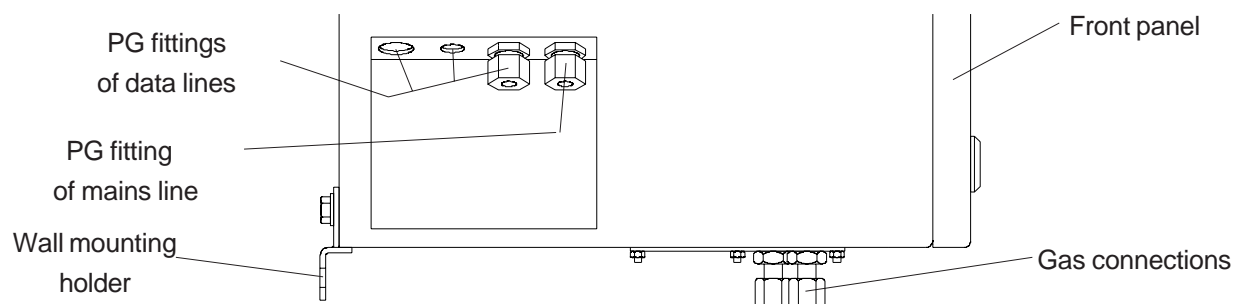

Fig. 5-4: BINOS® 100 F, PG fitting for lines (side view from left)
- Take mains line via PG fitting (Fig. 5-4) inside the housing.
- Take lines via PG fittings (Fig. 5-4) inside the housing.